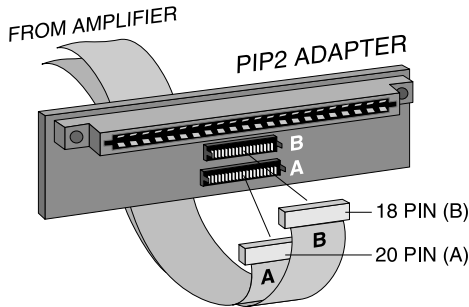

Fig.3.5 PIP2 Input Adapter Connection
2. Remove the existing PIP module or panel (two screws). For *PIP2™* amplifiers, this may involve disconnecting the PIP from a PIP2 input adapter (see Figures 3.5 and 3.6). If a PIP2 input adapter is already present, do not remove the ribbon cables from the adapter. Otherwise you will have to reconnect them in the next step.
PIP2 Amplifiers: (Requires a PIP2 input adapter. Crown part number Q43528-1.) Connect the PIP2 input adapter to the two input cables of the amplifier (see Figure 3.5). Notice that the PIP2 input adapter should be positioned with the PIP edge connector on top and facing away from the amplifier. The 20-pin cable (A) is connected first then the 18-pin cable (B) is connected. Both ribbon cables should extend below the PIP2 input adapter.